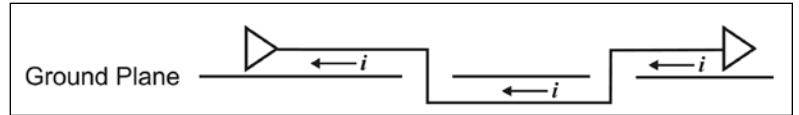

Figure 2: Return current past discontinuity is minimized when keeping same reference plane
4. The least problem of layer changing occurs when the signal transitions from one side of the ground plane to the other (see Figure 2). Since we haven't changed reference planes, there is no issue with ground vias, so the impedance discontinuity is minimal. For highest speed signal integrity, you will need to minimize the impedance discontinuity by controlling the via size and length, and the diameter of the keepout.